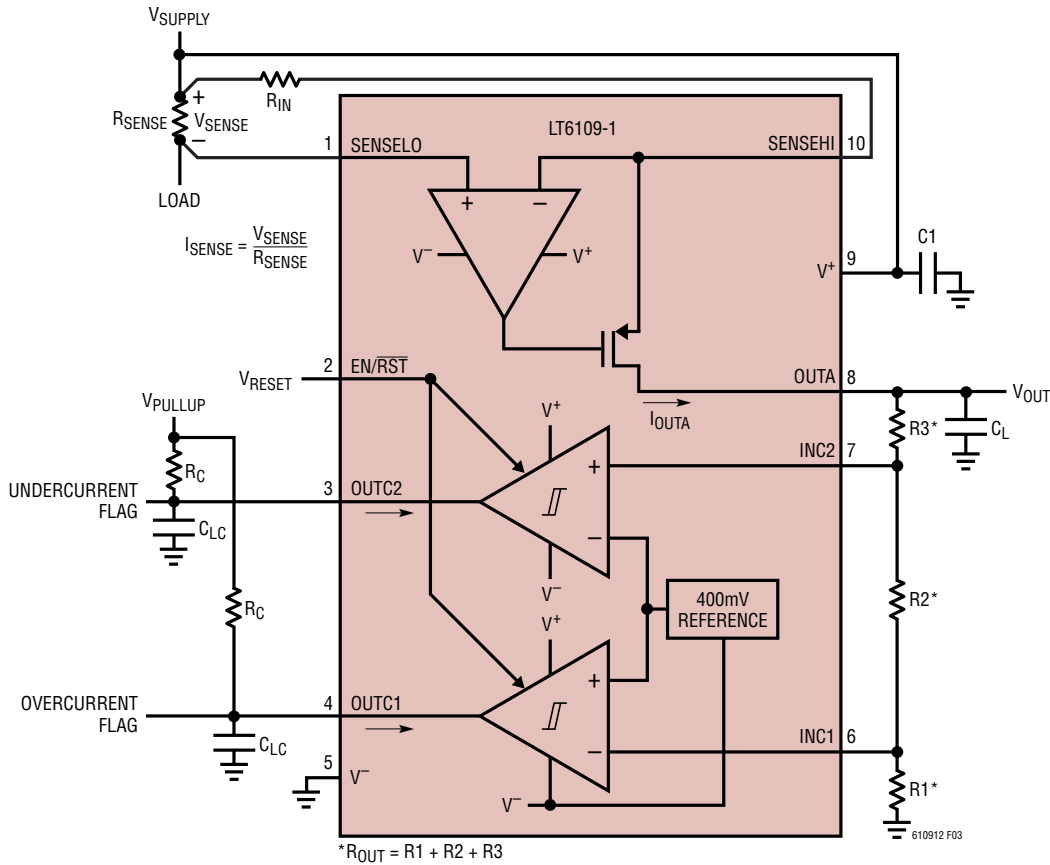

Figure 3. LT6109-1 Typical Connection
**TYPICAL PERFORMANCE CHARACTERISTICS** Performance characteristics taken at  $T_A = 25^\circ\text{C}$ ,  $V^+ = 12\text{V}$ ,  $V_{\text{PULLUP}} = V^+$ ,  $V_{\text{EN/RST}} = 2.7\text{V}$ ,  $R_{\text{IN}} = 100\Omega$ ,  $R_{\text{OUT}} = R1 + R2 + R3 = 10\text{k}$ , gain = 100,  $R_C = 25.5\text{k}$ ,  $C_L = C_{\text{LC}} = 2\text{pF}$ , unless otherwise noted. (See Figure 3)
**TYPICAL PERFORMANCE CHARACTERISTICS** Performance characteristics taken at  $T_A = 25^\circ\text{C}$ ,  $V^+ = 12\text{V}$ ,  $V_{\text{PULLUP}} = V^+$ ,  $V_{\text{EN/RST}} = 2.7\text{V}$ ,  $R_{\text{IN}} = 100\Omega$ ,  $R_{\text{OUT}} = R1 + R2 + R3 = 10\text{k}$ , gain = 100,  $R_C = 25.5\text{k}$ ,  $C_L = C_{LC} = 2\text{pF}$ , unless otherwise noted. (See Figure 3)
An internal sense amplifier loop forces SENSEHI to have the same potential as SENSELO as shown in Figure 3. Connecting an external resistor,  $R_{IN}$ , between SENSEHI and  $V_{SUPPLY}$  forces a potential,  $V_{SENSE}$ , across  $R_{IN}$ . A corresponding current,  $I_{OUTA}$ , equal to  $V_{SENSE}/R_{IN}$ , will flow through  $R_{IN}$ . The high impedance inputs of the sense amplifier do not load this current, so it will flow through an internal MOSFET to the output pin, OUTA.
where  $R_{OUT} = R_1 + R_2 + R_3$  as shown in Figure 3.
Kelvin connection of the SENSEHI and SENSELO inputs to the sense resistor should be used in all but the lowest power applications. Solder connections and PC board interconnections that carry high currents can cause significant error in measurement due to their relatively large resistances. One 10mm × 10mm square trace of 1oz copper is approximately 0.5mΩ. A 1mV error can be caused by as little as 2A flowing through this small interconnect. This will cause a 1% error for a full-scale  $V_{SENSE}$  of 100mV. A 10A load current in the same interconnect will cause a 5% error for the same 100mV signal. By isolating the sense traces from the high current paths, this error can be reduced by orders of magnitude. A sense resistor with integrated Kelvin sense terminals will give the best results. Figure 3 illustrates the recommended method for connecting the SENSEHI and SENSELO pins to the sense resistor.
then use the configuration shown in Figure 3. The desired trip points and full-scale analog output voltage for the circuit in Figure 3 can then be achieved using the following equations: